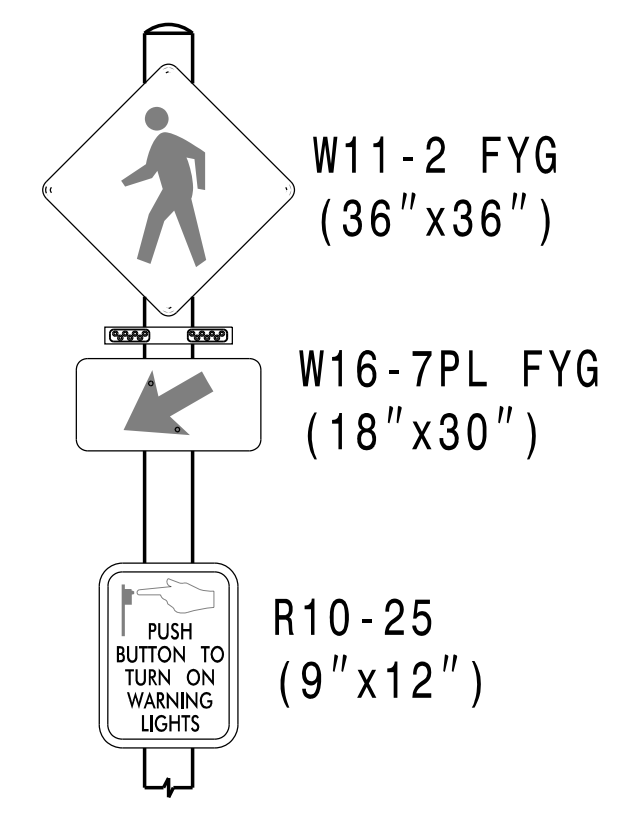

FIGURE 1 - SIGN B
(B) RRFB w/ Left Arrow (See Fig. 1)	(B) RRFB w/ Left Arrow (See Fig. 1)